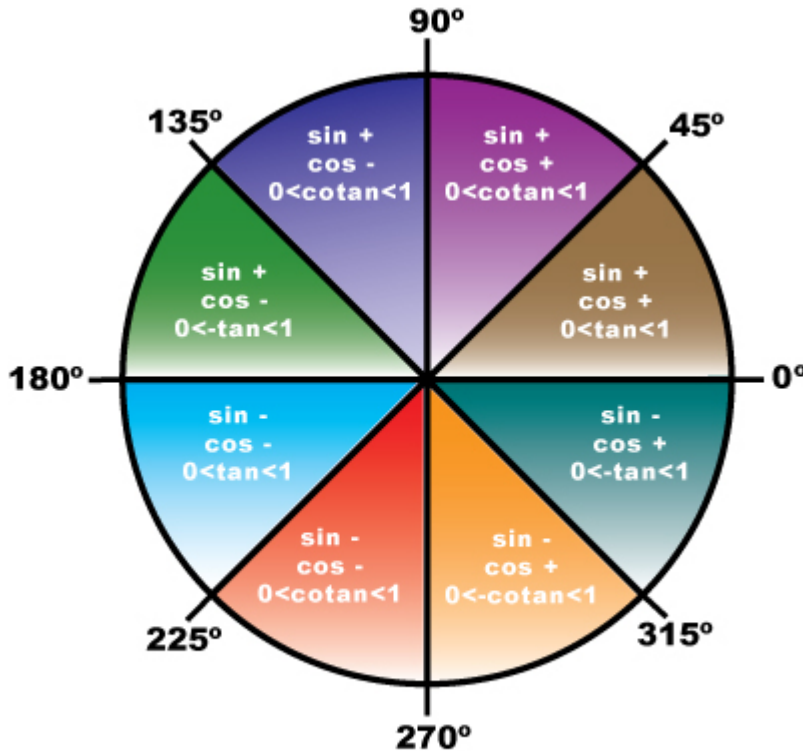

Figure 2 – Illustration of the relationship of the resolver outputs and ratio transformer settings at various angles.
1) The output with the greater magnitude at a particular angle is connected to the input of the ratio transformer. That is because the setting of the ratio transformer (tangent of the shaft angle) must be ≤ 1 . The cosine is greater than the sine at 0° to 45°, so the tangent is ≤ 1 . At 45° to 90° the sine is greater so it is used as the input to the ratio transformer. The ratio transformer is set to the inverse of the tangent, or cotangent, because it is ≤ 1 . Refer to Figure 2.
2) The two outputs connected to the common of ratio transformer should have the same sign. At 0-90° both sine and cosine are positive, so S3 and S2 are connected to common. At 90-180° sine is positive and cosine is negative so S3 and S4 are connected to common. Refer to Figure 2.